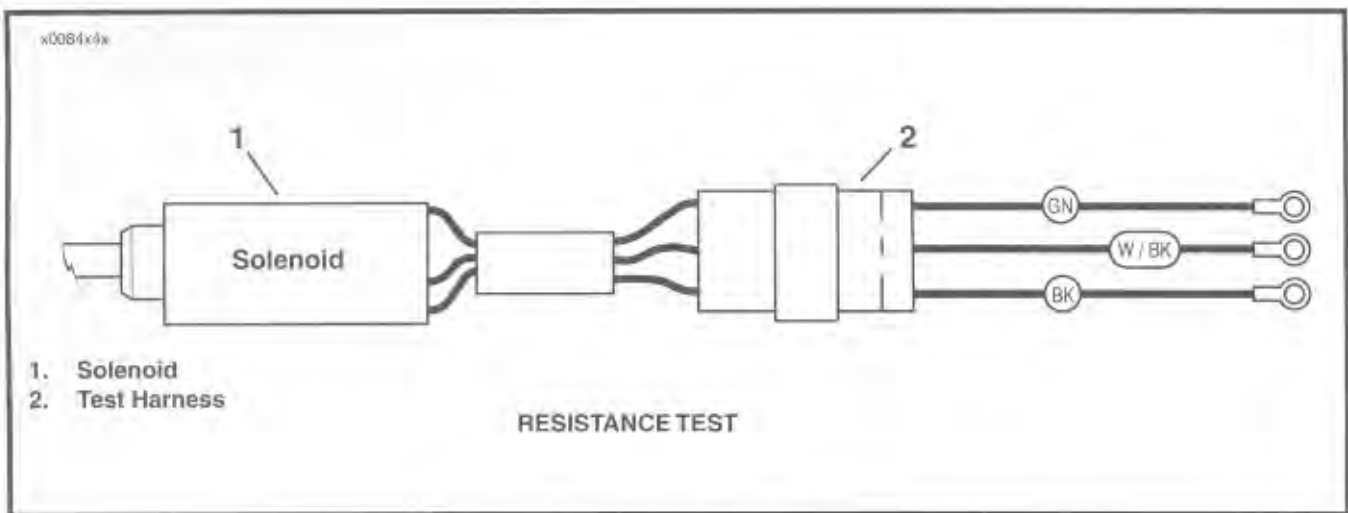

Figure 4-17. Resistance Test Connections
- See Figure 4-17. Connect the test harness to the solenoid as shown.
- A. A good ground (1 Ohm or less) at BK wire in the 3-place mating connector (item 3, Figure 4-17).